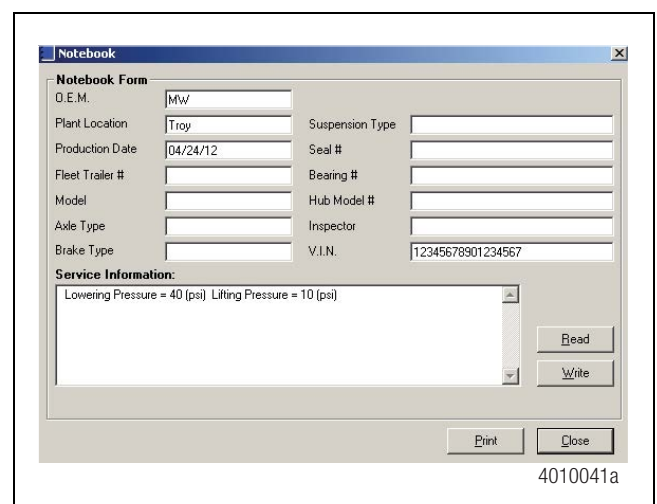

Figure 10
4. After the pressure values have been validated and programmed, they will be displayed in TOOLBOX™ Software's "Notebook" feature. Figure 10.